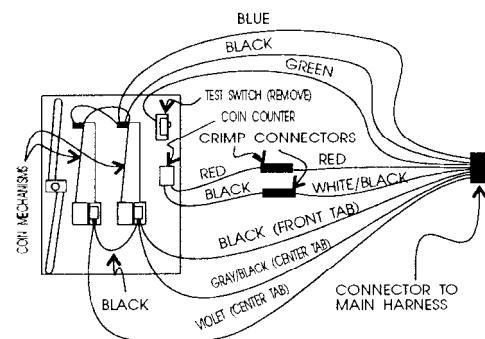

Fig. 6. Coin door harness connections
4. Attach the new harness to the coin mechanisms and counter as shown in Fig. 6. Note the black lead is connected to the front tab of both coin mechanisms; and the violet and gray/black leads are connected to the center tabs. Nothing should be connected to the rear most tabs.